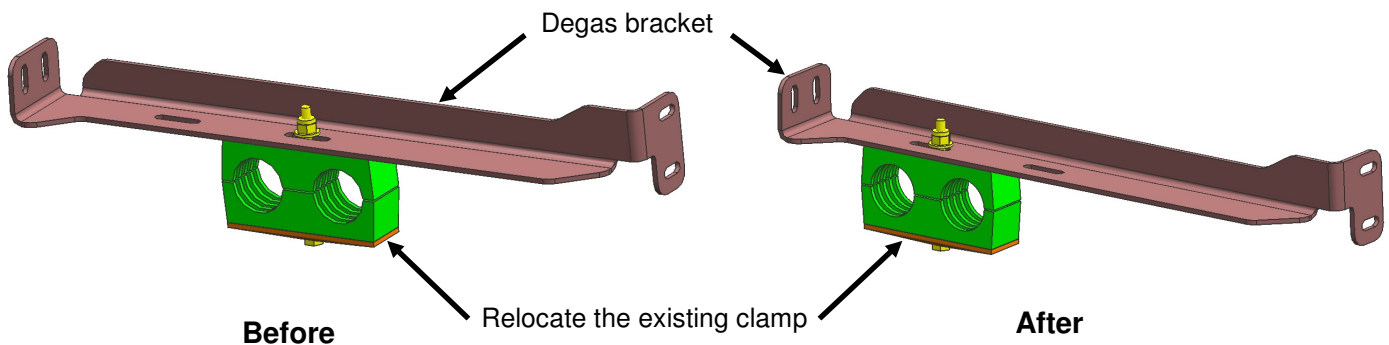

Figure 5: Tube Support Clamp Relocation
16. If the degas bracket has slots instead of holes to mount the tube support clamp to, the clamp and hardware from Step 7 is to be moved one (1) slot rearward and loosely re-installed, as per Figure 5.